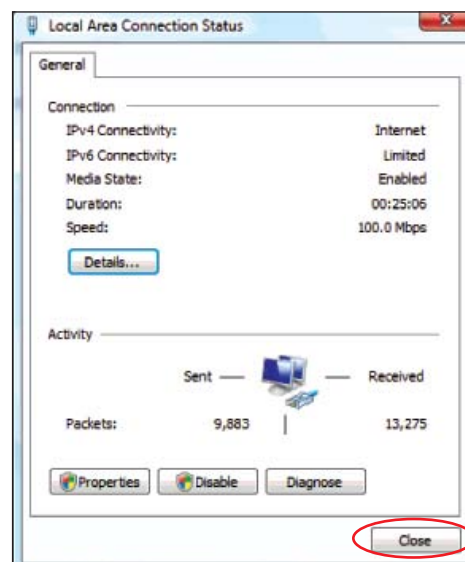

Figure 15-10. Local Area Connection Status.
12. Select **Close** (Figure 15-10). You can now close any additional windows.